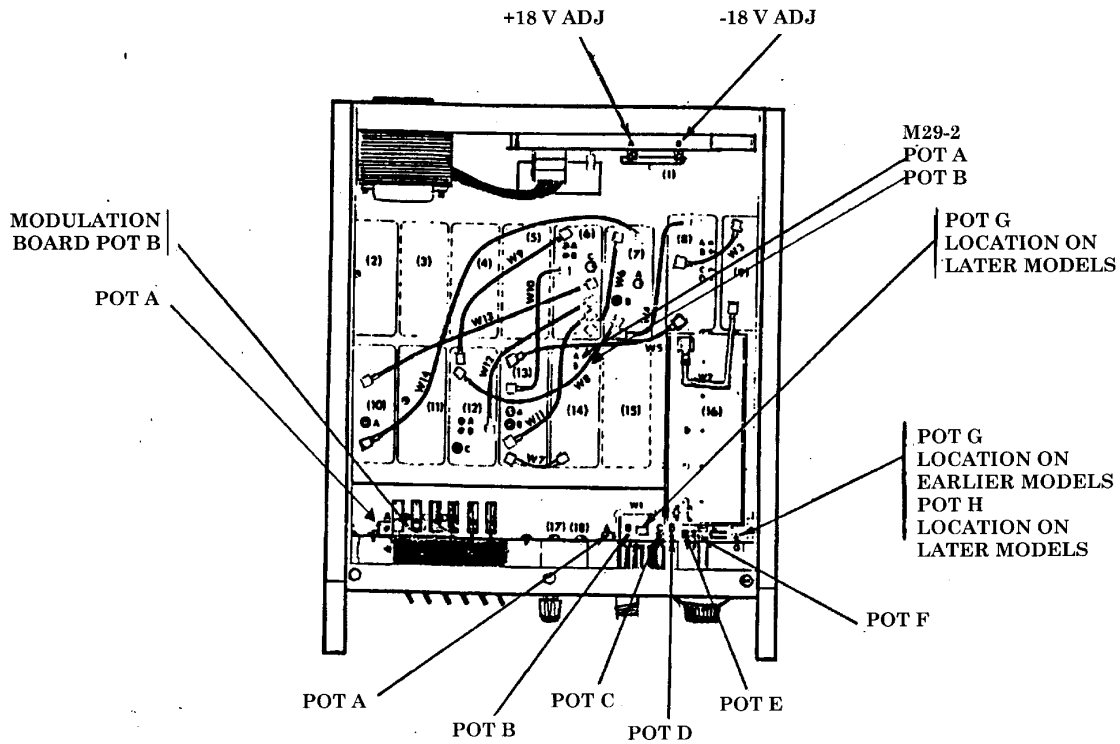

Figure 2. Test instrument - top view.
- (6) Adjust MODULATION BOARD POT A (fig. 2) for a $+5.00 \pm 01$ V dc indication on the digital multimeter (R).
(9) Adjust M29-2 POT B (fig. 2) to produce an indication of 2.000 MHz 100 Hz on frequency counter (R).
(10) Set **MODULATION FM/AM** slide control to full up position and adjust M29-2 POT A (fig. 2) to produce an indication of 2.100 MHz 100 Hz (R) on frequency counter.
(11) Set **MODULATION MODE** switch to **Fmx1** and adjust MODULATION BOARD POT B on left side of board (fig. 2) to produce an indication of 2.010 MHz 100 Hz on frequency counter (R).
- (1) Temporarily disconnect measuring receiver sensor module from TI.
- (2) Set **OUTPUT VERNIER** control fully ccw and adjust meter board POT B (fig. 2) until meter needle bisects dot at left end of meter scale (R).
- (3) Adjust **OUTPUT VERNIER** control fully cw and adjust meter board POT A (fig. 2) for a +3-dBm **OUTPUT** meter reading (R).
- (4) Set **OUTPUT** step attenuator to **+10 dBm**.
- (5) Connect measuring receiver sensor module to TI **RF OUTPUT**.
- (6) Alternately adjust **OUTPUT VERNIER** control for a **0** and **-7 dBm** reading on TI **OUTPUT** meter while adjusting meter board POT F (fig. 2) for +10 dBm and POT E (fig. 2) for +3 dBm indications on the measuring receiver. Repeat the above until no further adjustments are required (R).
- (7) Adjust **OUTPUT** step attenuator to **0 dBm**.
- (8) Alternately adjust **OUTPUT VERNIER** control for a **+3** and **-6 dBm** reading on TI **OUTPUT** meter while adjusting meter board POT C (fig. 2) for +3 dBm and POT D for -6 dBm indications on the measuring receiver. Repeat the above until no further adjustments are required (R).